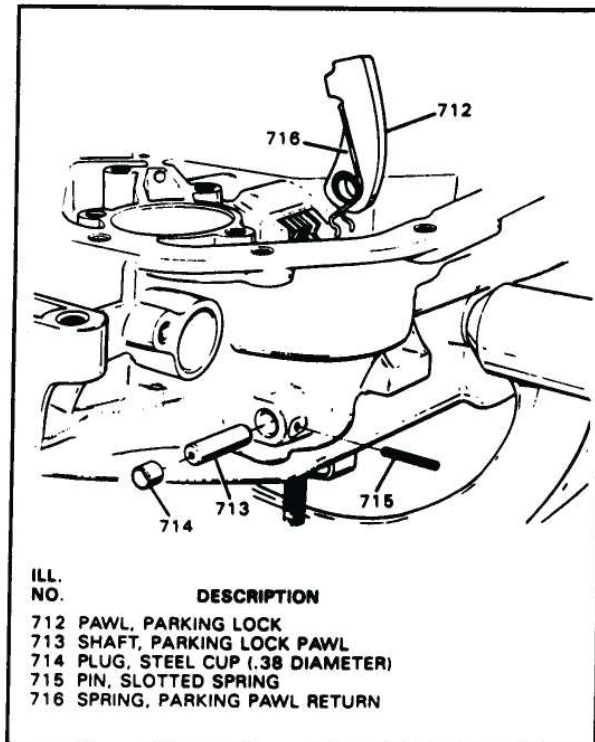

Figure 65
21. Remove the parking pawl and spring from the case, *only if necessary*, using Figure 65.